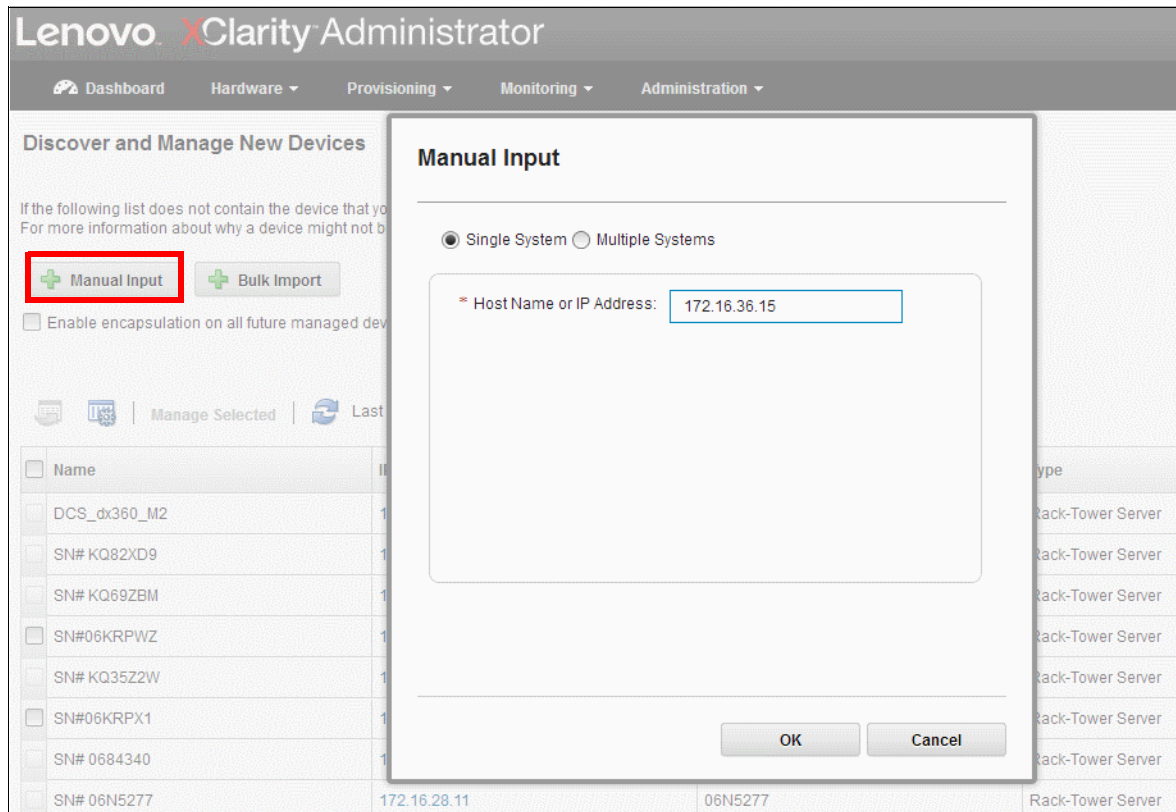

Figure 7-4 Discovering the SR950
3. To discover and start managing the SR950, click the **Manual Input** option as shown in Figure 7-4 on page 228. You can discover a single server or multiple servers at once.